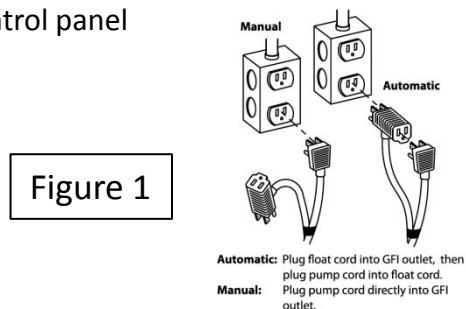

Figure 1
1. POWER CABLE: The power cable mounted to the pump must not be modified in any way except for shortening or splicing to a specific applications. 1 Phase pumps are provided with a 3 wire power cord, and 3 Phase pumps are provided with a 4 wire power cord. Connect the green wire to ground. Under no circumstances should the green wire be connected to the power supply. Every pump **must** be grounded. **DO NOT USE THE POWER CABLE TO LIFE PUMP.** Do not use an extension cord for 1 Phase pump(s). Connect only the 1Ph/115V to the piggyback float plug shown in figure 1. Always wire the pump as indicated on the wiring diagram inside the control panel